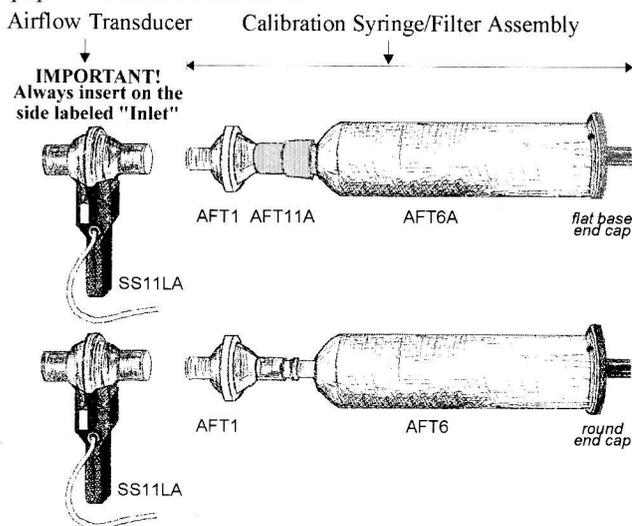

Fig. 12.9
6. **Insert** the Calibration Syringe/Filter Assembly into the airflow transducer (Fig. 12.9).
Always insert syringe assembly on the transducer side labeled "Inlet" so that the transducer cable exits on the left, as shown in Fig. 12.9.